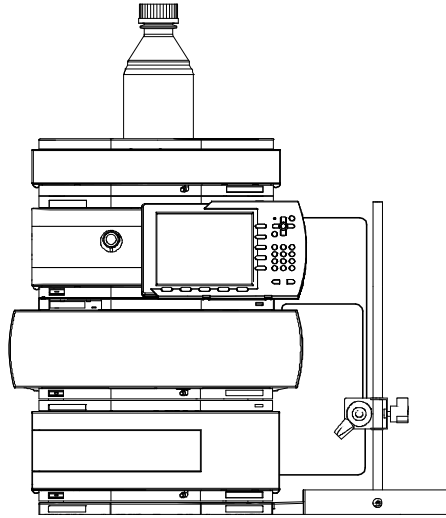

Figure 4 Installing the System
- 5 Install other system modules on top of the manual injector baseplate (see Figure 4 on page 12).